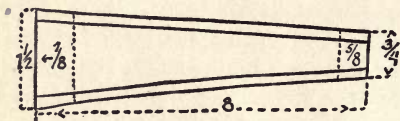

FIG. 33.
**Making the Handle.**—A handle should next be made from a piece of tin  $1\frac{1}{2}$  by 8 inches. The handle should be made tapering and a dimensioned drawing for this is shown in Fig. 33. When the tin is cut to the shape shown the dividers should be set to  $\frac{3}{16}$  inch and a line scribed  $\frac{3}{16}$  inch inside each side of the handle. The tin should be folded